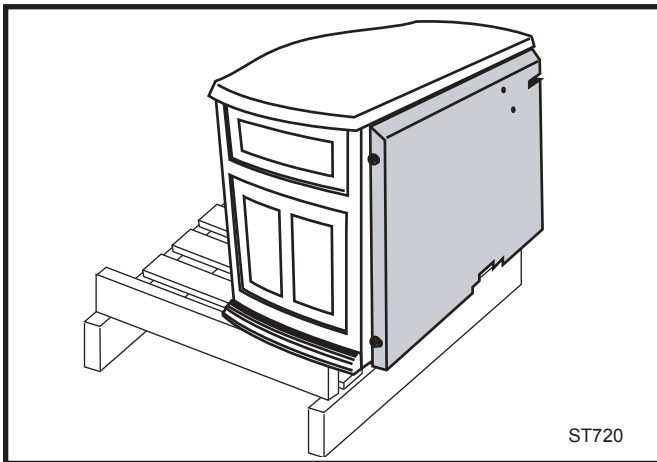

Fig. 6 Slide stove back just far enough to access rear leg holes.
1. Slide stove to the rear of the pallet just far enough to access rear leg holes. Make sure the stove does not tip over backwards. (Fig. 6)